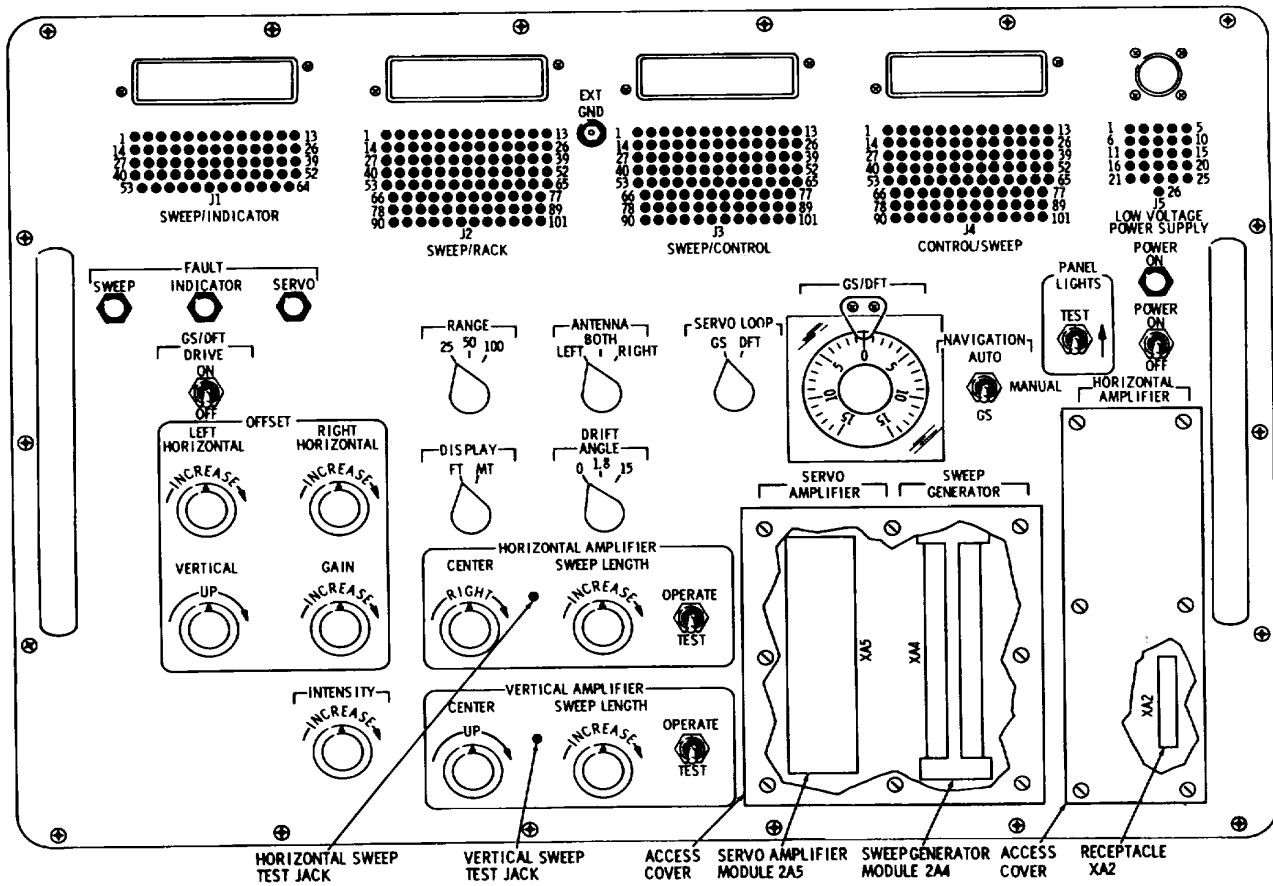

Figure 2-4. Test Set Subassembly MX-8639A/APS-94D controls, indicators, and connectors.
Operating Controls, Indicators, and Connectors (fig. 2-4). The controls, indicators, and connectors for the MX-8639A/APS-94D are listed, along with functions, in table 2-3 and shown in figure 2-4.
d. Reset all circuit breakers and set the MX-8639A/APS-94D POWER switch (fig. 2-4) to ON. Observe the POWER ON pilot lamp on the upper control panel of the MX-8638A/APS-94D (fig. 2-3) lights. e. Momentarily set PANEL LIGHTS switches on two of the three control panels (figs. 2-3 and 2-4) to TEST and observe that all lamps on each panel light.
i. Set MX-8639A/APS-94D NAVIGATION switch (fig. 2-4) to AUTO. Set GS/DFT DRIVE switch to ON.
j. Set the MX-8638A/APS-94D NAV SIM control on the upper control panel (fig. 2-3) to zero (0) degree. Allow indication of GS/DFT indicator on control panel (fig. 2-4) of MX-8639A/APS-94D to stabilize at 0 degree. Set NAV SIM control (fig. 2-3) clockwise to 7 degrees. Observe that SERVO FAULT indicator lamp, on control panel (fig. 2-4) of MX-8639A/APS-94D flashes. Observe that indication on GS/DFT indicator increases clockwise and stabilizes at 7 degrees. Observe that SERVO
l. Set the MX-8639A/APS-94D SERVO LOOP switch (fig. 2-4) to DFT and repeat steps h and i above.
m. Loosen captive screws securing the MX-8639A/APS-94D SERVO AMPLIFIER-SWEEP GENERATOR access panel (fig. 2-4). Remove access panel and remove sweep generator module 2A4. Note the SWEEP FAULT indicator lamp flashes. Install sweep generator module 2A4 and note that the light SWEEP FAULT indicator lamp turns off. Install access panel and secure with screws.
n. Set the MX-8639A/APS-94D POWER switch (fig. 2-4) to OFF. Disconnect primary power input cable assemblies W9 and W10 from power sources.
FIER-SWEEP GENERATOR access cover (fig. 2-4). Remove the access cover.
(1) At the MX-8639A/APS-94D, loosen the captive screws securing the SERVO AMPLIFIER-SWEEP GENERATOR access cover (fig. 2-4). Remove the access cover panel.
(2) Remove the sweep generator module 2A4 from its receptacle.
(3) Install the module extender-2A4 in the module 2A4 receptacle (MX-633/APS-94).
(4) Plug the sweep generator module 5A5 in the module extender-2A4.
(1) At the MX-8639A/APS-94D, loosen the captive screws securing the HORIZONTAL AMPLIFIER access cover (fig. 2-4).